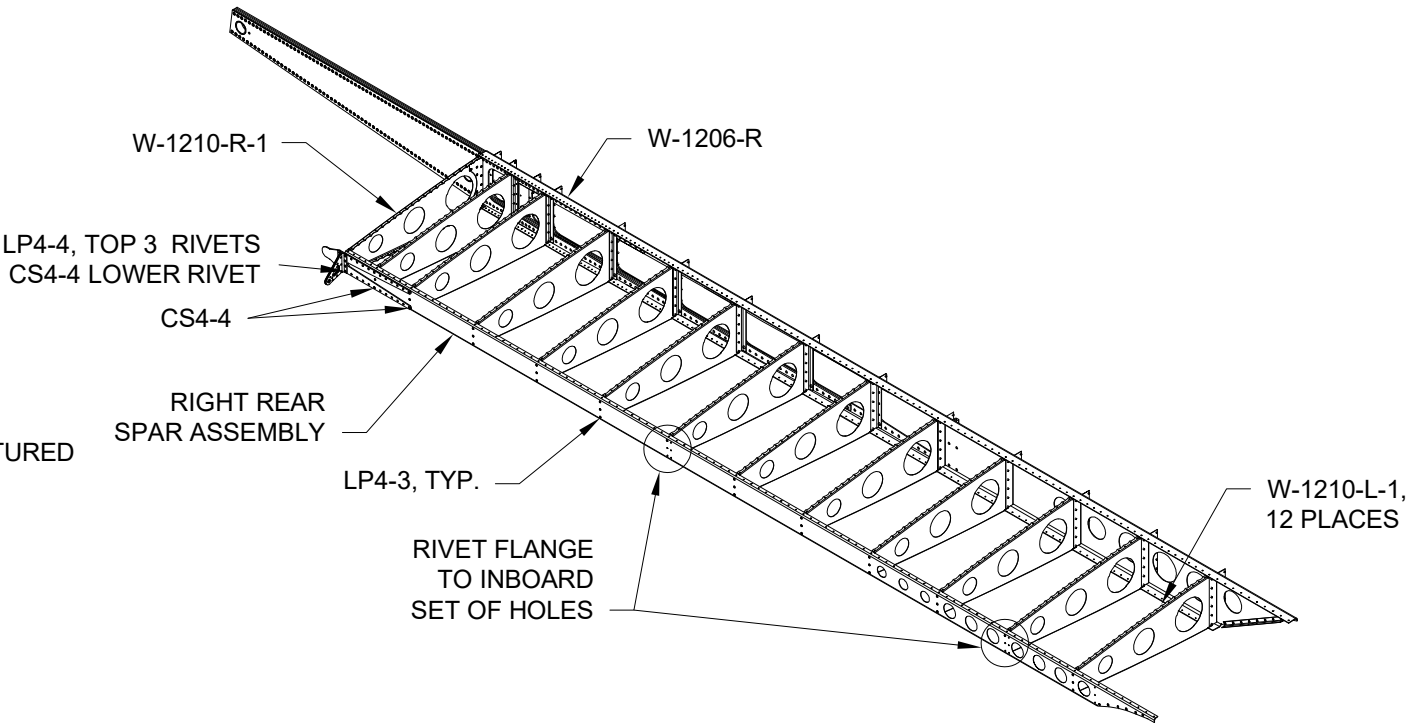

FIGURE 4: ATTACHING THE REAR SPAR
Step 10: Take the Right Rear Spar Assembly and cleco then rivet to the aft flanges of the W-1210-1 Main Ribs as shown in Figure 4.